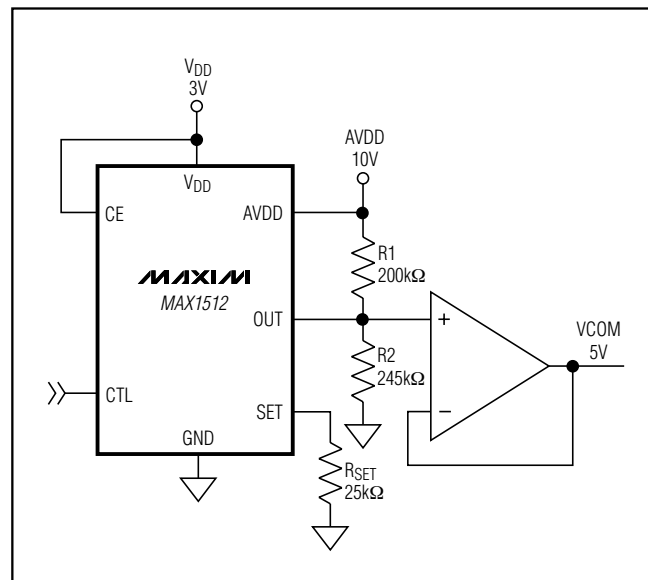
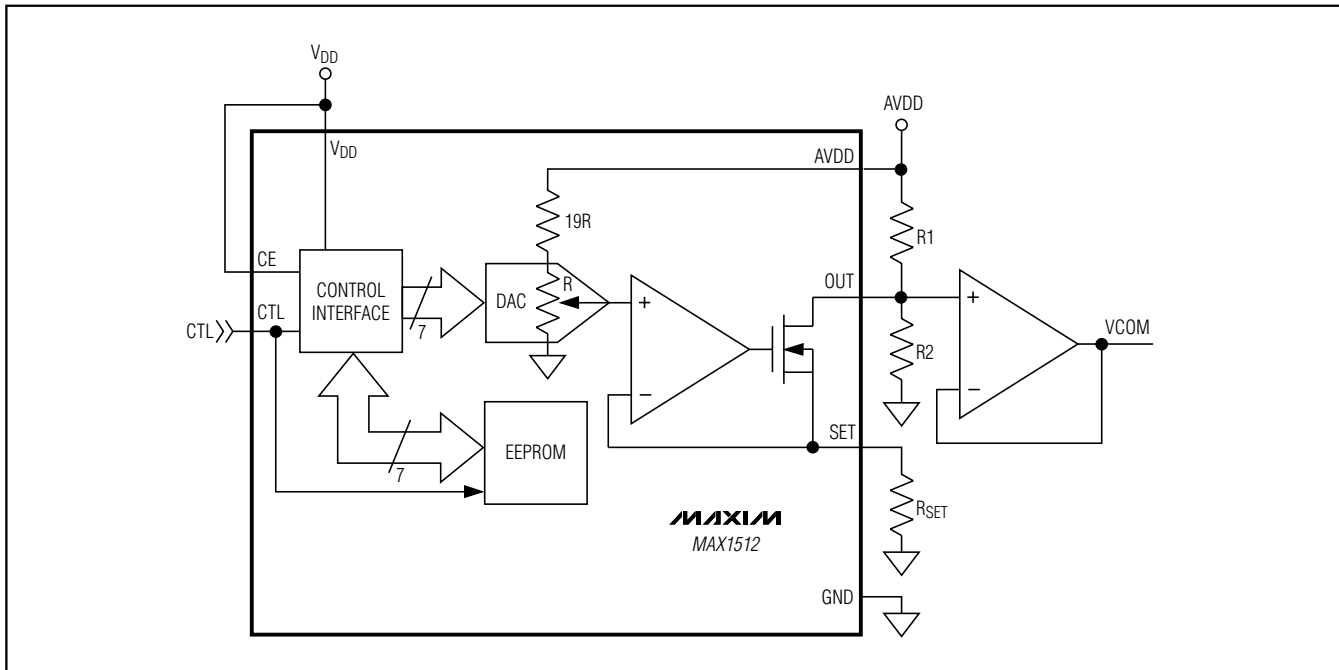

Figure 1. Standard Application Circuit
Figure 2. Simplified Functional Diagram
(Circuit of Figure 1, $V_{DD} = 3V$, $V_{AVDD} = 10V$, $V_{OUT} = 5V$, $R_{SET} = 30.1k\Omega$, $T_A = 0^{\circ}C$ to $+85^{\circ}C$, unless otherwise noted. Typical values are at $T_A = +25^{\circ}C$.) (Note 1)
(Circuit of Figure 1, $V_{DD} = 3V$, $V_{AVDD} = 10V$, $V_{OUT} = 5V$, $R_{SET} = 24.9k\Omega$, $T_A = +25^\circ C$, DAC half scale, unless otherwise noted.)
The MAX1512 is a solid-state alternative to mechanical potentiometers used for adjusting the LCD backplane voltage (VCOM) in TFT LCD displays. The MAX1512 attaches to an external resistive voltage-divider and sinks a programmable current (I_{OUT}), which sets the VCOM level (Figure 1). An internal 7-bit DAC controls the sink current and allows the user to increase or decrease the VCOM level (Figure 2). The DAC is ratio-metric relative to AVDD and is monotonic over all operating conditions. The user can store the DAC setting in an internal EEPROM. On power-up, the EEPROM pre-sets the DAC to the last stored setting. The single-wire interface between the LCD panel and the programming circuit adjusts the DAC, programs the EEPROM, and provides programming power.
- Place the VCOM buffer and the R1/R2 voltage-divider close to the OUT pin (Figure 1). Keep the VCOM buffer and the R1/R2 voltage-divider close to each other.